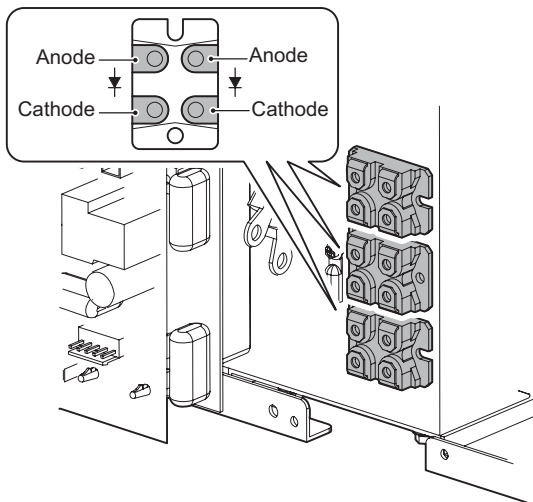

Figure 10-15: Tester checkpoints for D2, D4 and D5
- 2) Refer to Table 10-6 and Figure 10-15 for the checkpoints on D2, D4 and D5.